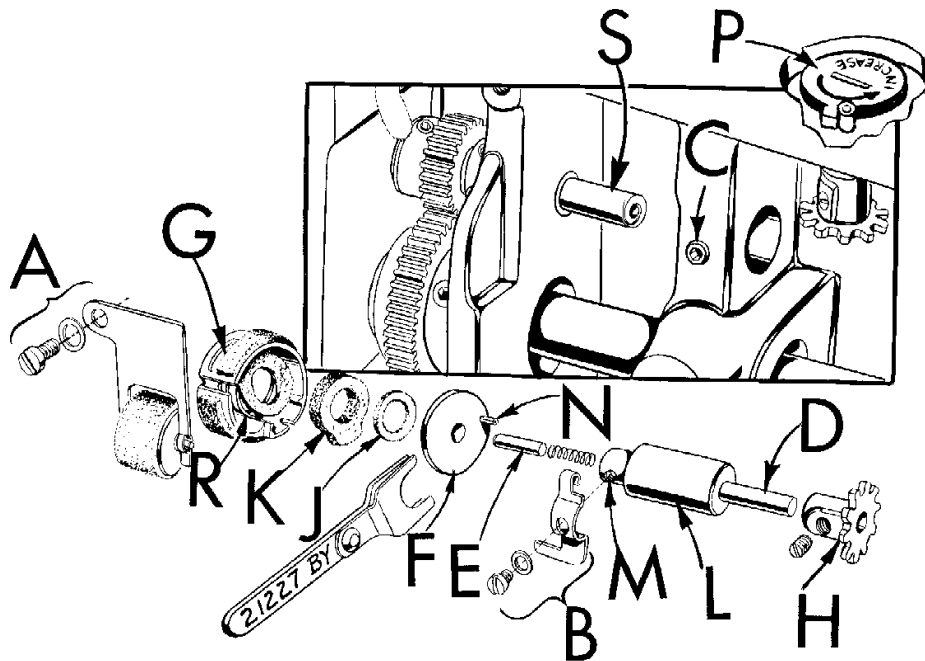

Fig. 23
3. Position oil supply felt (K, Fig. 23) on the hook shaft, making certain the felt's projection extends into dovetail of metering cup.
4. Position air seal felt (J) on hook shaft.
6. Insert hook oil control shaft (D, fig. 23) and its bushing (L) part way into its boss which is located directly behind the hook shaft, being careful NOT TO DROP the pump disc pivot pin (E).